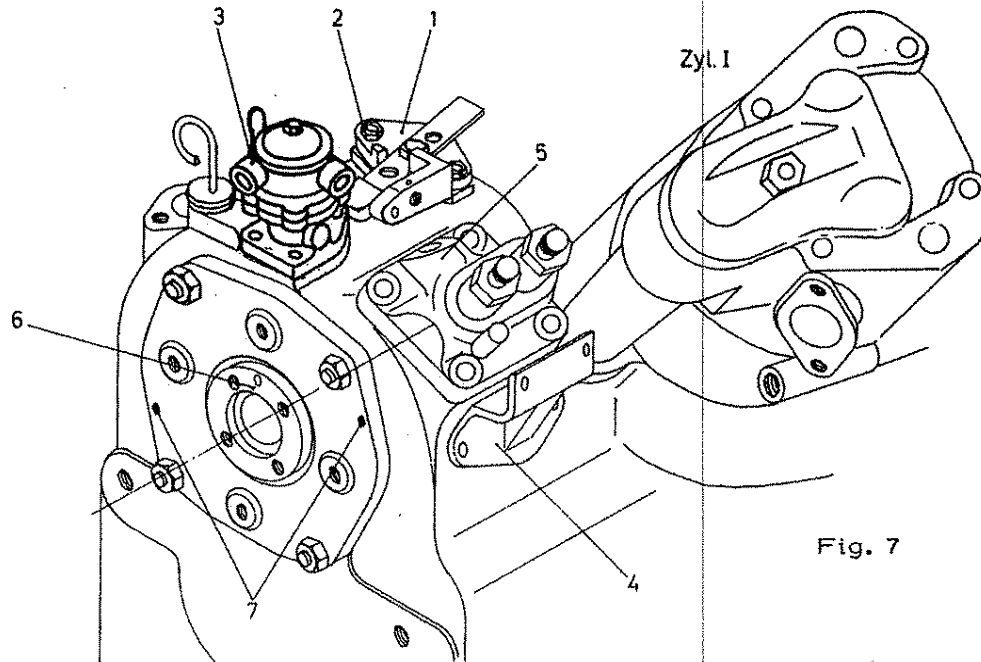

Fig. 7
- Remove complete decompression device (1) by unscrewing nuts (2) and insert special tool X (no. 0888.923.01.5) as shown in Fig. 7 to disengage cam-followers from camshaft.
- Remove fuel feed pump (3) (if applicable).
- After removal of bracket (4) disconnect governor lever from pump rack (Ball pivot).
- Remove fuel injection pump (5) (see Fig. 7) as described on page 19.
- Turn camshaft to bring marking "O" on flange (6) to top center. Then remove the four nuts of the bearing flange. With two hex. bolts M 8 x 25 (DIN 933) inserted into threaded holes (7) the bearing flange can be pried off, holding the complete camshaft assembly.